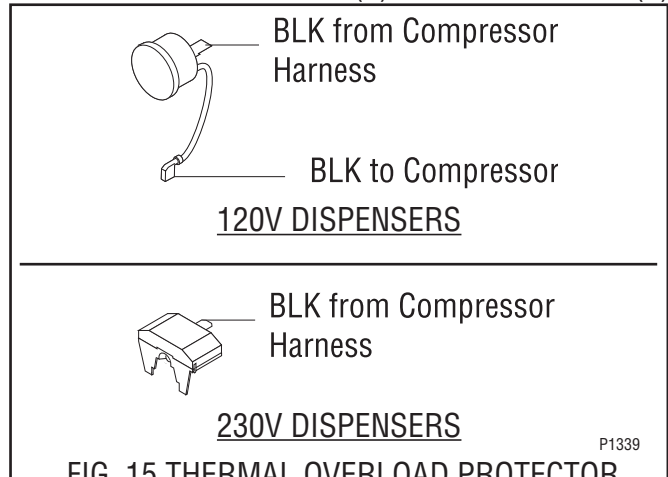

FIG. 15 THERMAL OVERLOAD PROTECTOR
1. Remove terminal cover retainer (6) and terminal cover (5).
3. Remove overload protector retainer (2) and thermal overload protector (3) as an assembly.
4. Remove retainer (2) from overload protector (3) and discard overload protector.
5. Install retainer (2) on new overload protector (3).
6. Install retainer (2) and overload protector (3) on the compressor terminal bracket.
7. Refer to Fig. 15 and reconnect the thermal overload protector wires.
8. Reinstall terminal cover (5) and cover retainer (6).
5. Refer to Fig. 15 and reconnect the wire.
6. Reinstall terminal cover (5) and cover retainer (6).